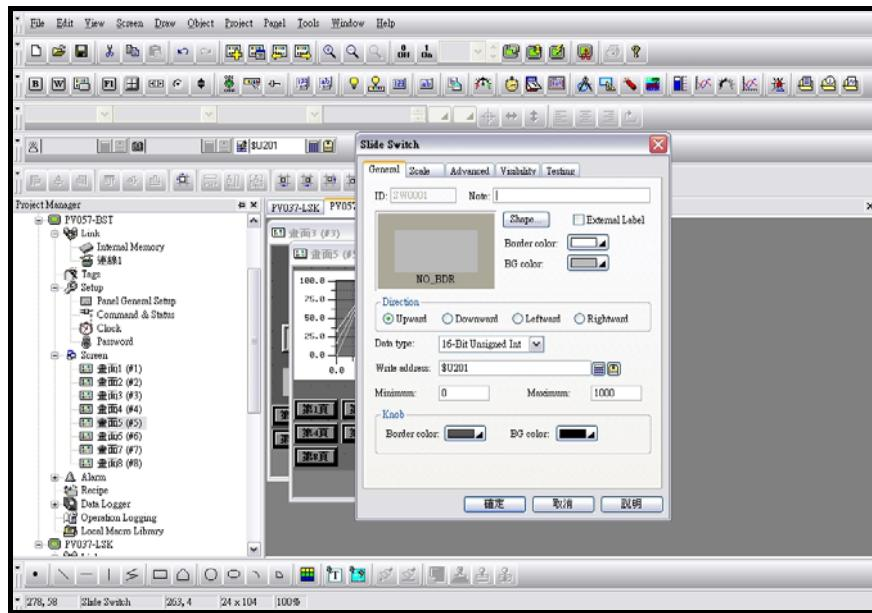

Figure 2-97 New project _ step 6_Object properties setting dialogue box.
Step 6: When complete all settings, users can start to design needed screens. Double left click the mouse to get further setting dialogue boxes. To move or adjust any object by moving checks on the edges , see as shown in figure 2-97.